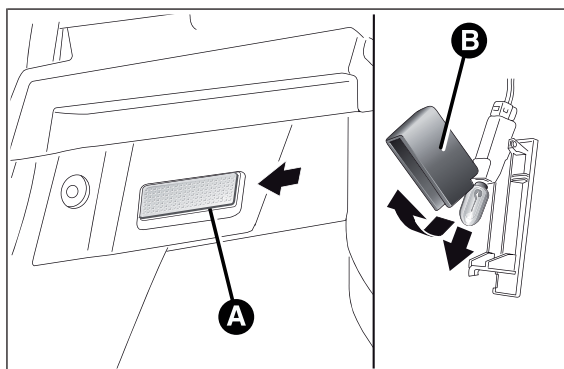

fig. 131
- ☐ open the luggage compartment and extract the roof light A fig. 131 working in the point shown by the arrow;